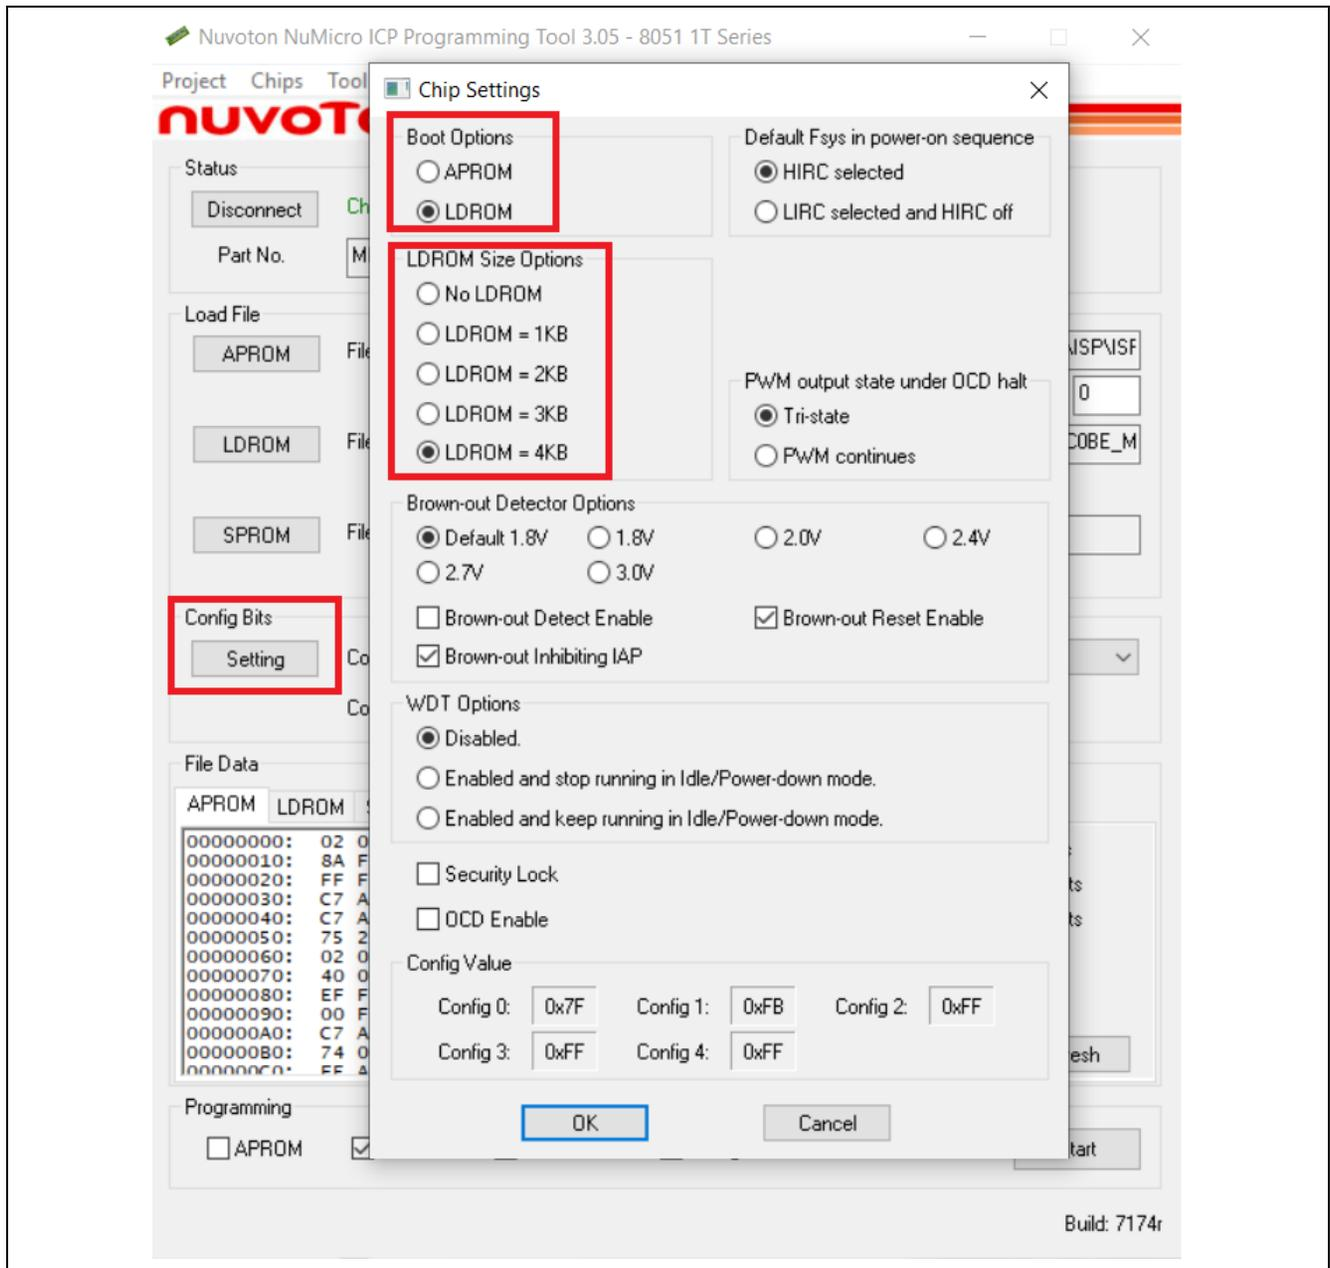

Figure 4-8 Config Bits Setting
- (11) Click the **Setting** button in the **Config Bits** section to open the **Chip Settings** form, and select **LDROM** in **Boot Options** and set LDROM size in **LDROM Size Options** according to your need, as shown in Figure 4-8.